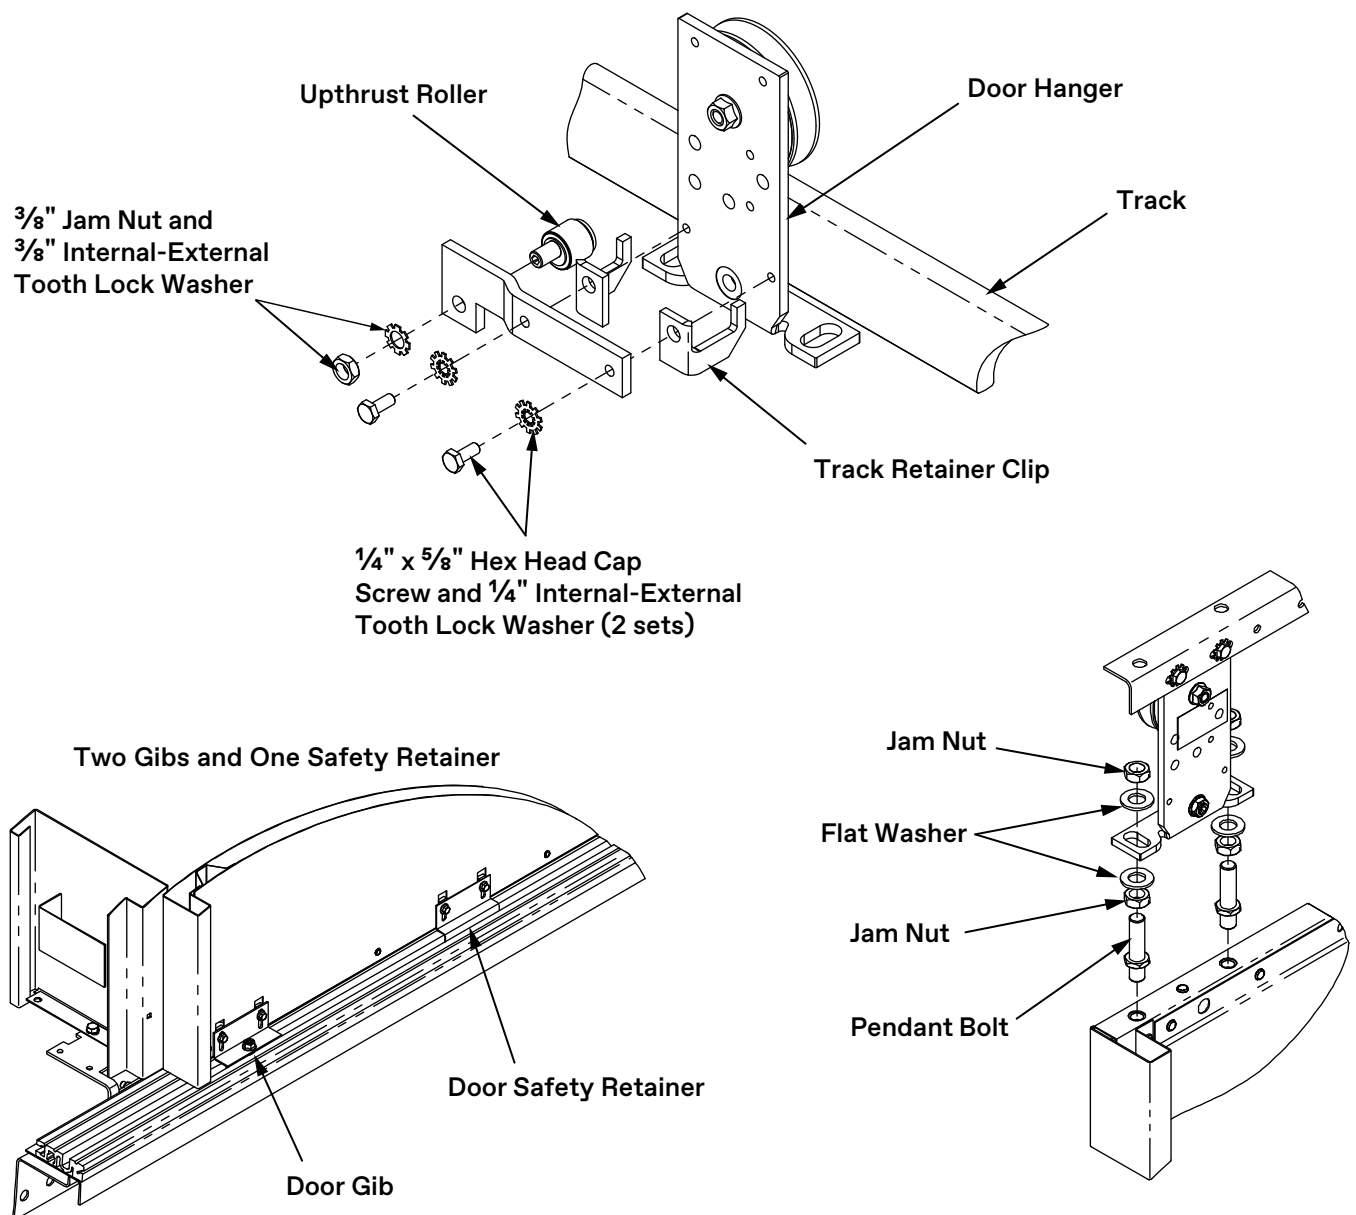

Figure 27 - Mount Hoistway Doors
3. Install pendant bolts in the top of the doors and tighten. See Figure 27.